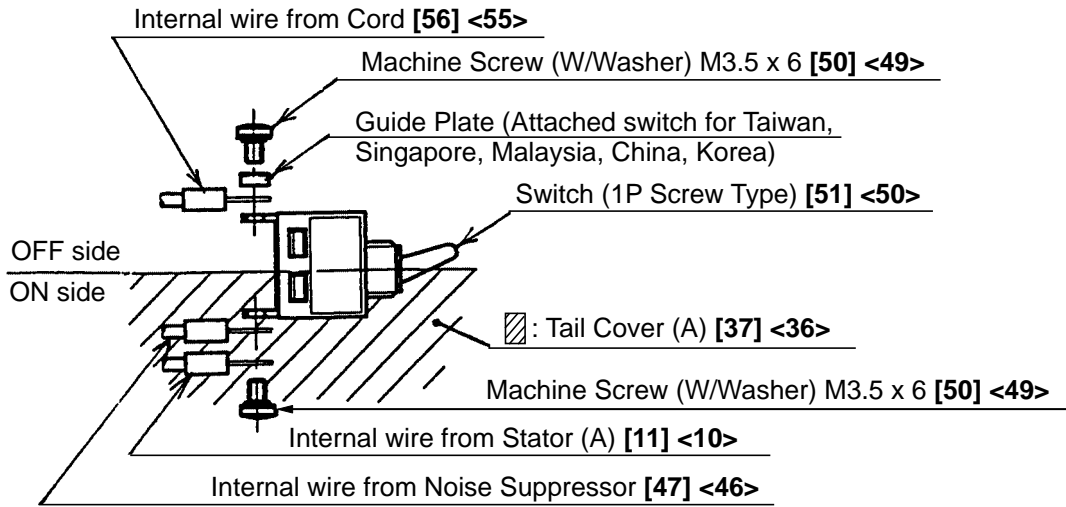
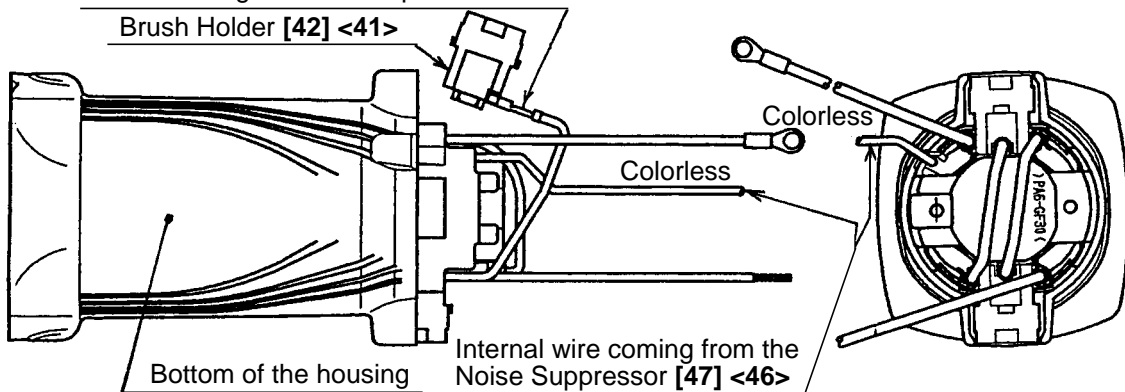

Fig. 6
Fig. 7
- (7) Connect the internal wires of Stator (A) [11] <10> correctly as shown in Fig. 6 and Fig. 7.